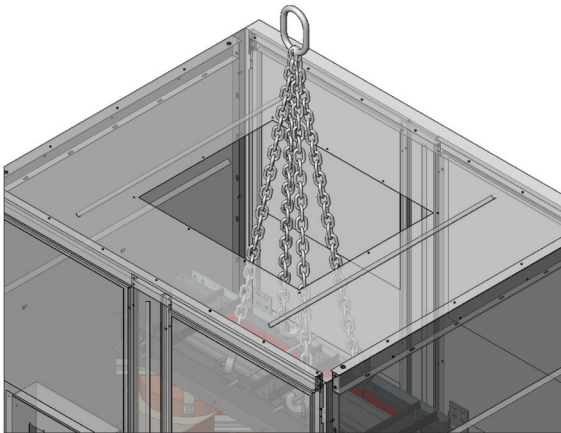

FIGURE 8
- (8) Lift the power transformer by core & coil only through cutout in enclosure roof (see figure 8).